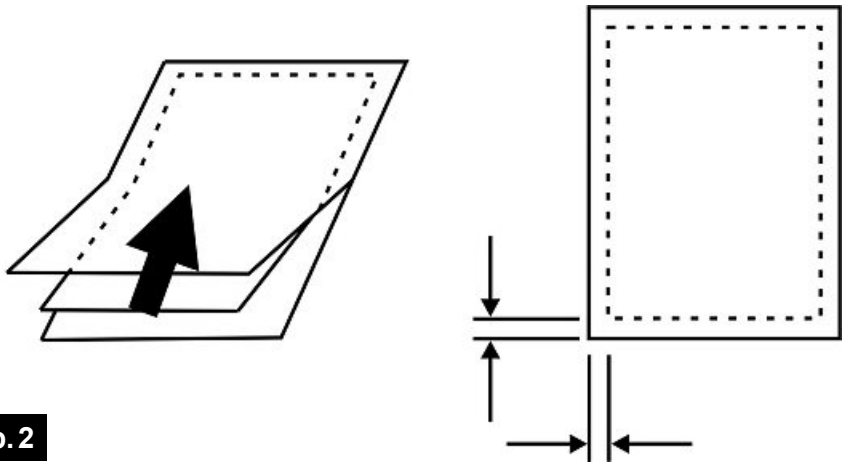

Abb. 2
- Laminating pouches of all sizes should be introduced into the centre of the opening on the front. Ensure that the sealed end is introduced first. (See Fig. 2)
- Move the On/Off switch (5) to the "COLD" or "HOT" position to switch the device on.
- The Power status LED (7) lights up solid blue.
- Wait until the Ready status LED (6) lights up solid red. The device is cool or is not heating up.
- Guide the pouch into the middle of the front opening (4) on the device. Ensure that the sealed end (see Fig. 2) is introduced first.
- The document is output again at the back (1).
- To interrupt the lamination process (e.g. if the intake angle is incorrect), press the roller unlocking button (2) and correct the position of the pouch.
- For hot lamination, move the On/Off switch (5) to the "HOT" position.